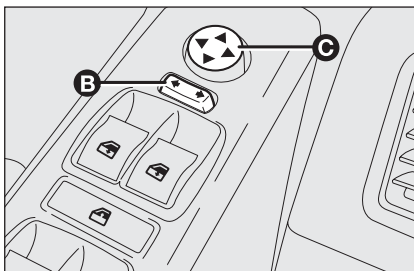

fig. 58
- ☐ use switch **B**-fig. 58 to select the mirror required (left or right);